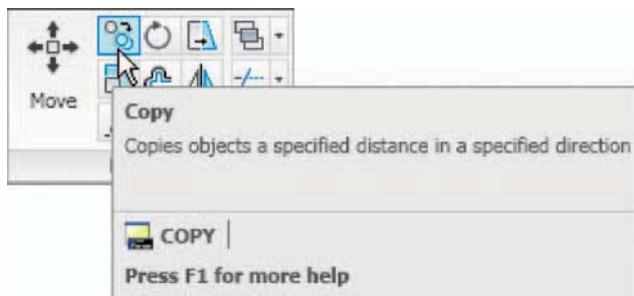

Fig. 5.4 The **Copy** tool from the **Home/Modify** panel
2. Call the **Copy** tool – either *left-click* on its tool icon in the **Home/Modify** panel (Fig. 5.4), pick **Copy** from the **Modify** toolbar, or enter **cp** or **copy** at the command line.